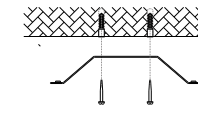

Figure 9
2. Insert the supplied rubbers into the alignment holes, then fix the mounting plate on the ceiling by supplied screws. (Figure 9)